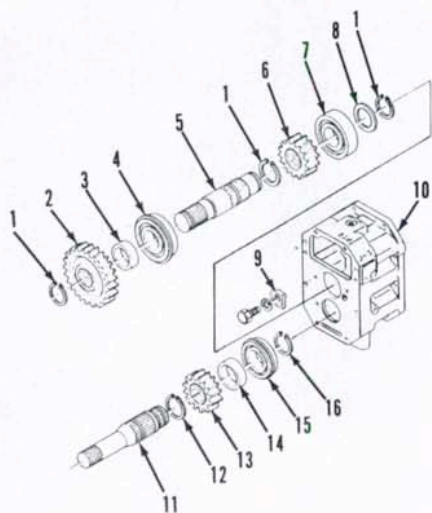

**Fig. 117—A seal washer is used on shifter housing front mounting cap screw.**
(3) from front of pto gear shaft (5). Remove bearing retainer (9), then tap shaft rearward out of case. Remove bearing retainer, then tap pto countershaft (11) out front of case. Remove pto shift rail and fork.
To reassemble transmission, reverse the disassembly procedure while noting the following: Be sure pto gear (6—Fig. 116) is installed with chamfered side forward. Make certain oil grooves in thrust washers (5—Fig. 115) are toward splined sleeves (8). Tighten mainshaft cap screw to a torque of 50-70 N·m (36-52 ft.-lbs.) Be sure seal washer (2—Fig. 117) is installed on shift housing (1) in proper location. Tighten seal washer cap screw to a torque of 12-20 N·m (9-15 ft.-lbs.) and remainder of mounting cap screws to 24-27 N·m (18-20 ft.-lbs.).